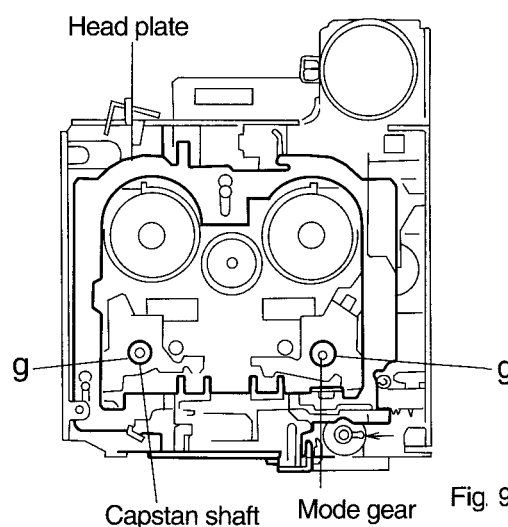

Fig. 9
■ Removing the Flywheel Assembly (See Fig. 9)